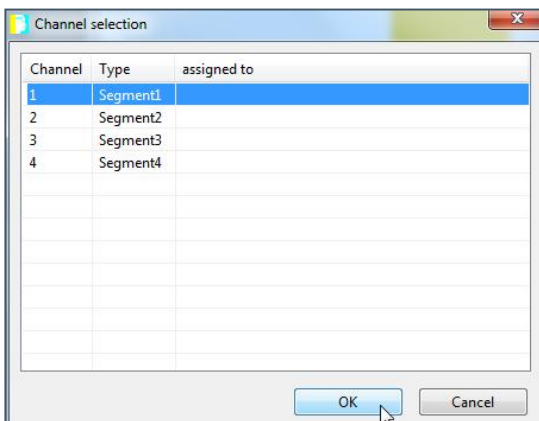

Figure 82: Selecting the PROFIBUS PA segment that is used for the PROFIBUS PA devices
- 5) Choose the segments where the selected PROFIBUS PA device is meant to be connected to. For the example 2, choose **Segment1** and then click **OK** (see: Figure 82: Selecting the PROFIBUS PA segment that is used for the PROFIBUS PA devices).